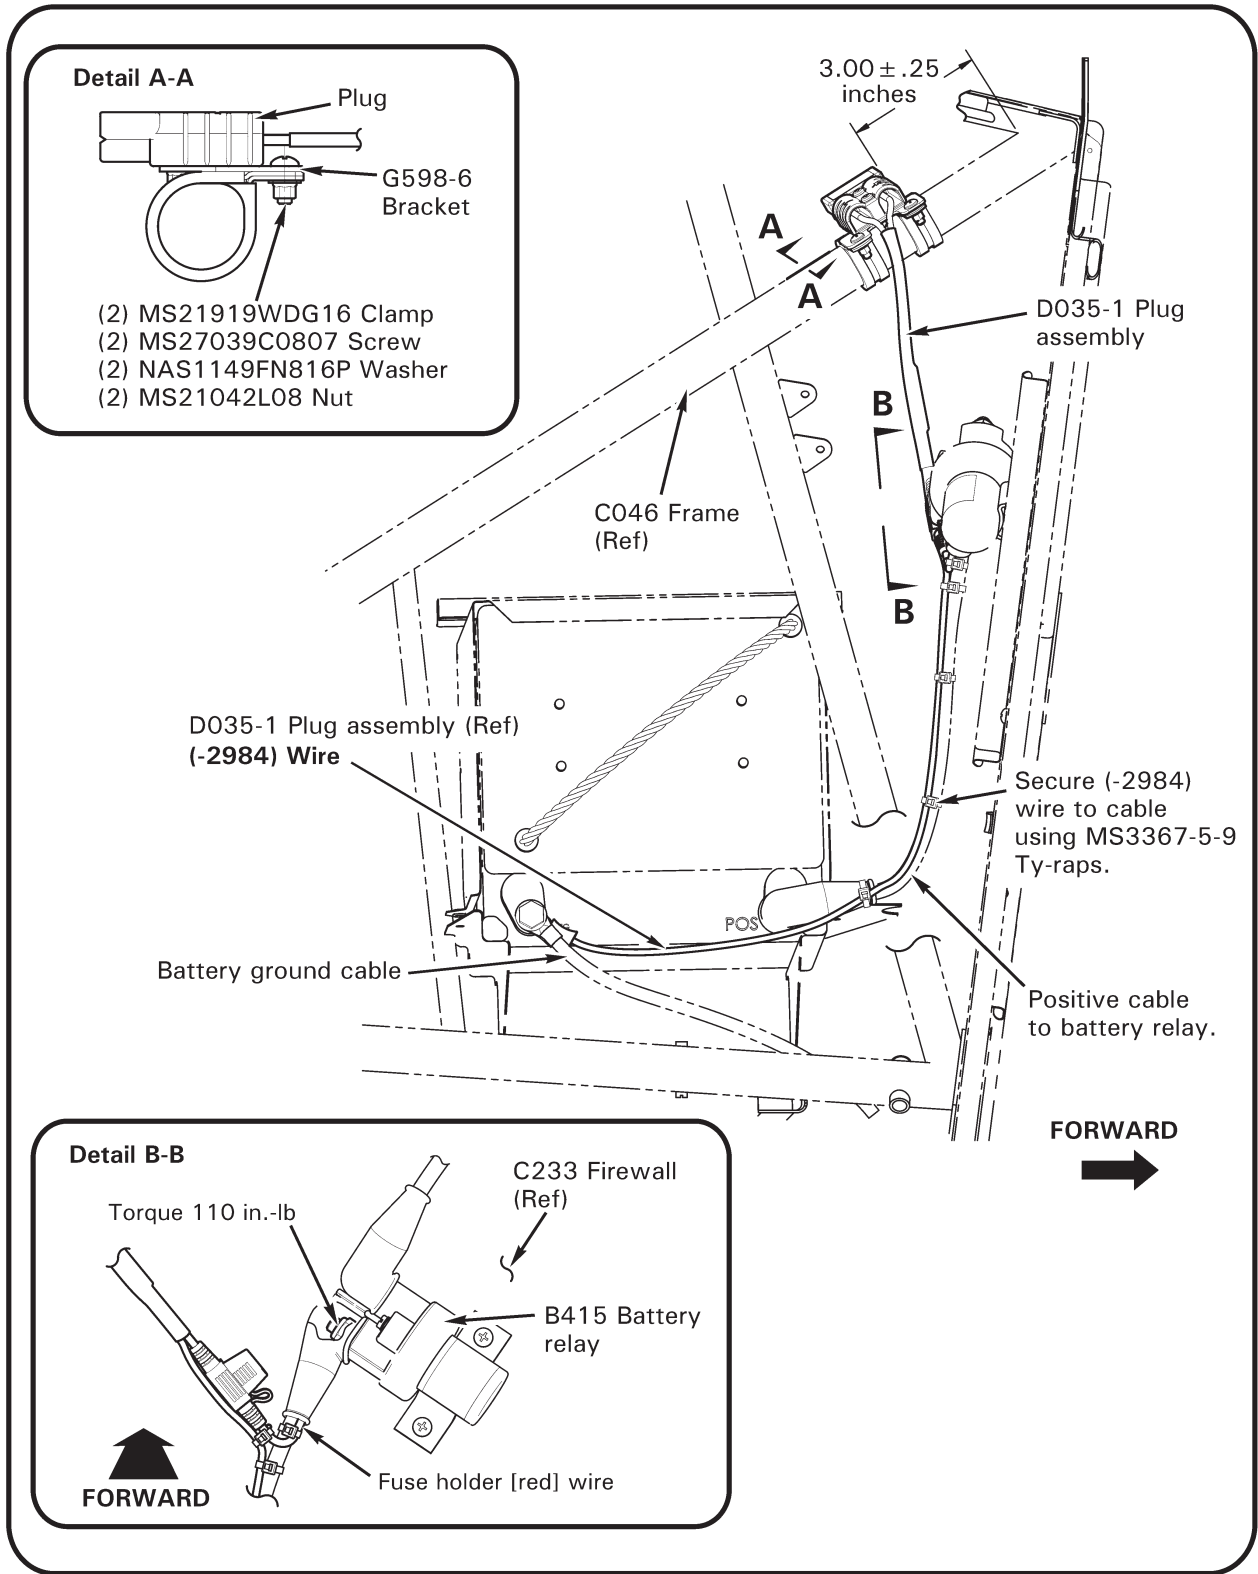

FIGURE 1
3. Refer to Figure 1. Position plug assembly on C046 frame as shown. Secure clamps onto frame using supplied hardware.